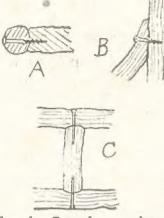

Fig. 4—Section showing joints
Cut the horizontal rails from $1\frac{1}{2}$ ins. to 2 ins. wood. The ends of these should be roughly chiselled to a curve to fit the posts, then the rails are firmly attached to them with a coach screw in each joint, as in detail (A) in Fig. 4.